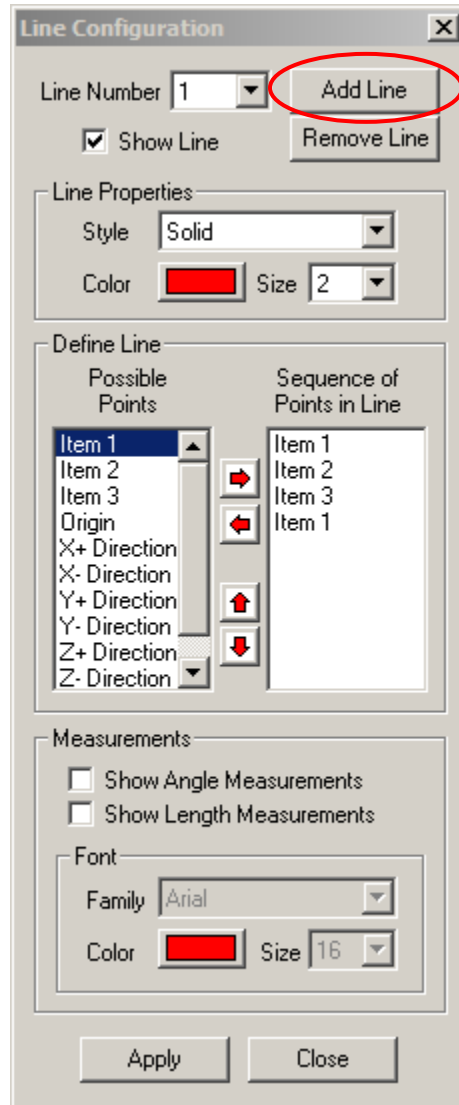

Figure 14. Line Configuration window
2. Click the **Configure** button located in the upper right corner of the graph window to open the Line Configuration window, shown in Figure 14.
3. Now you can add and define a series of lines to connect the tracked points. Click **Add Line** and define the sequence of points in the line as shown in Figure 14.